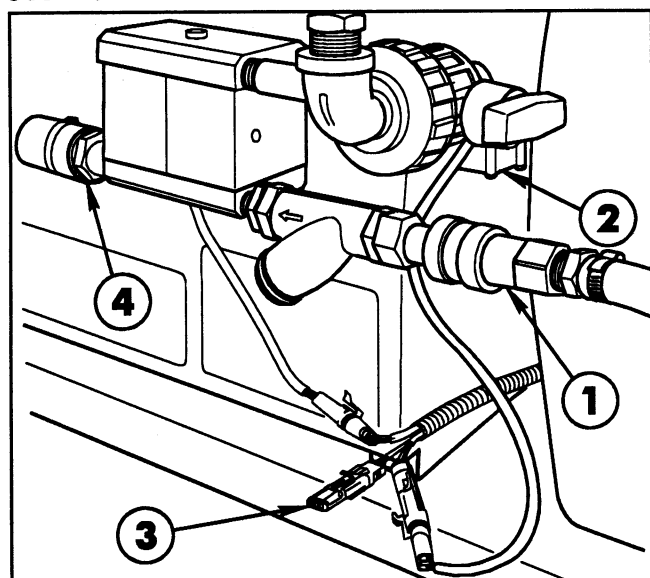

Fig. 4
7. Connect the Injection Tank Suction Hose to the Male Flat Face Coupler on the Injection Pump. See FIG. 4.